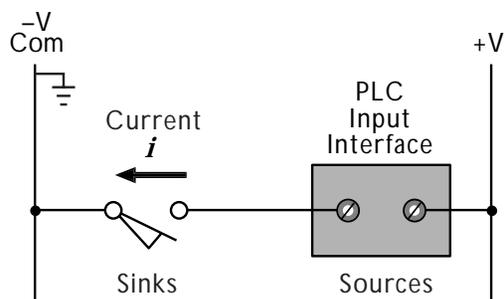

Figure 2-16. A sinking input device connected to a PLC's input interface.
**Sinking Input Devices.** Sinking input devices receive current from the PLC when they are on. Sinking inputs operate just like sourcing inputs, but in reverse. Figure 2-16 shows a sinking device connected to a PLC's input interface. The supply side of the input device is connected to the negative DC common line, and the other side of the device is connected to the MicroLogix's input interface. The interface, in turn, is connected to the positive DC voltage line. When the device closes, power from the positive DC power line flows through the PLC's input terminal, through the input device, and out to the common line, thereby closing the circuit. Thus, as the PLC sources (provides) current, the input device sinks (receives) it.